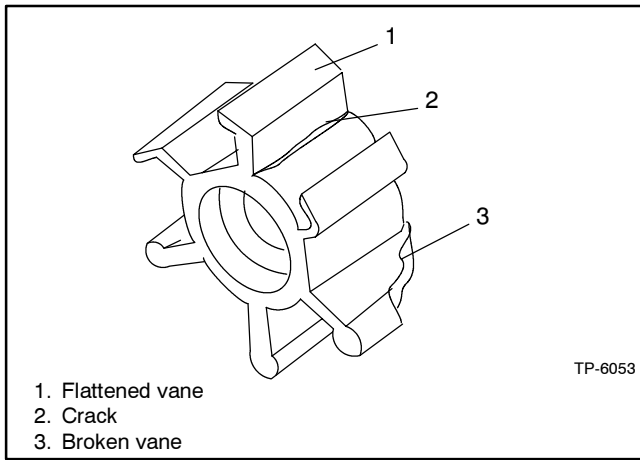

Figure 3-12 Worn Impeller
4. Inspect the impeller for damaged, cracked, broken, missing or flattened vanes. The impeller vanes should be straight and flexible. See Figure 3-12. Replace the impeller if it is damaged.